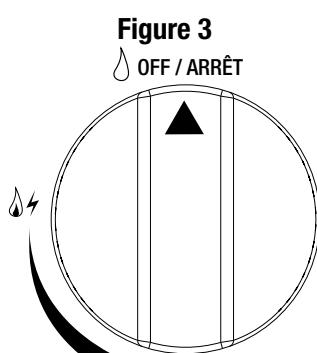

Figure 3
2. Make sure control knobs are "OFF" position. (Figure 3)
3. Control knob must be in the Δ (OFF) position. (Figure 3)